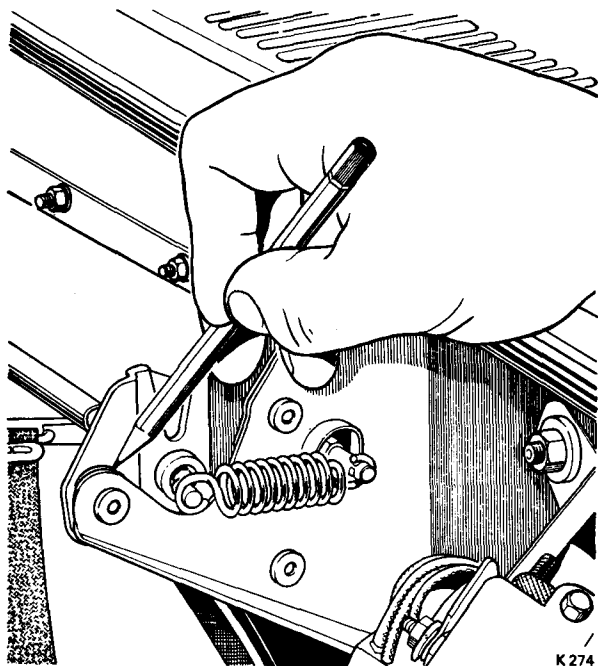

FIG. S50 MARKING THE BONNET CATCH MECHANISM TO FACILITATE ASSEMBLY
1. Scribe the profile of the bonnet catch mounting brackets onto their adjacent guide plates (*see Fig. S50*).